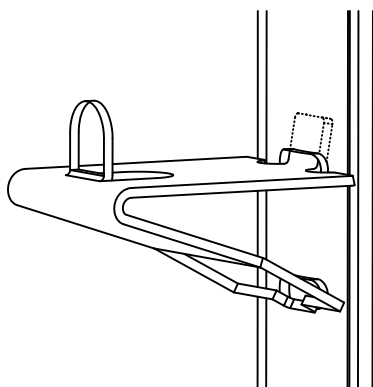

Figure 1
- The shelves may be adjusted by moving the clips as illustrated in Figure 1 below: